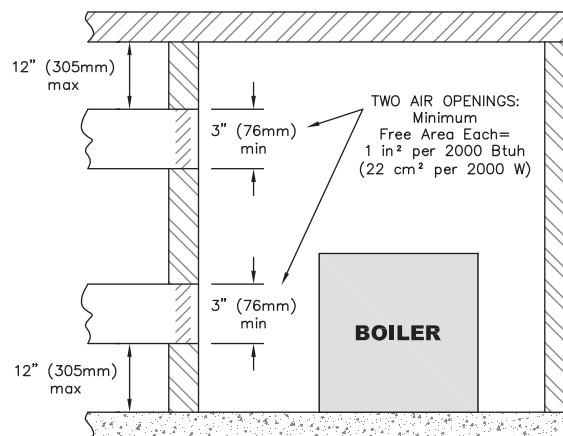

**Figure 1.3: Air Openings - All Air Directly from Outdoors**
- i. Where communicating directly or through vertical ducts with the outdoors each opening shall have a minimum free area of 1 in2 per 4000 Btu/hr (22 cm2 per 4000 W) of total input rating for all equipment in the space. See Figure 1.3 for openings directly communicating with the outdoors or Figure 1.4 for openings connected by ducts to the outdoors.